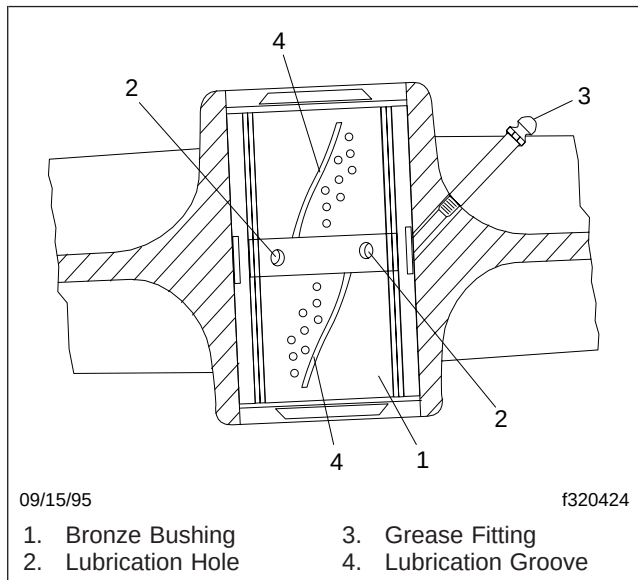

Fig. 15, Hendrickson RT2 and RTE2 Series Bushing Lubrication
3. Use a multipurpose chassis grease and lubricate the bronze, ball-indented bushings in the spring eyes at the grease fitting. See Fig. 15. Continue to lubricate until grease exits both ends of the bushing. If the pin will not accept lubricant, remove the pin and clean the lubrication channels where lubricant may have hardened. Remove the safety stands and lower the vehicle after lubrication is complete.